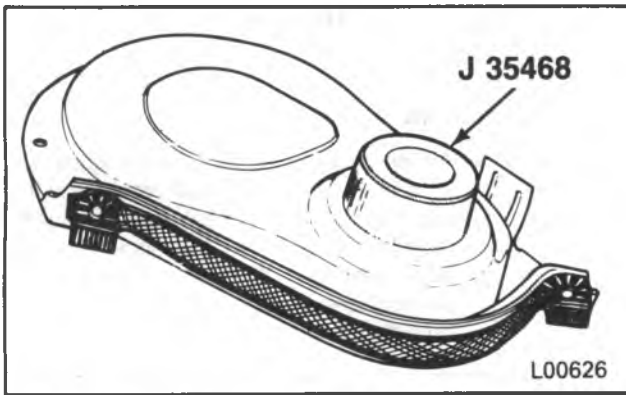

Figure 19 — Installing The Front Crankshaft Seal
- Use J 35468 to press the seal into place (figure 19).
2. New front oil pan seal to the timing gear cover. Refer to figures 19 and 20 for information on seal alterations and positioning. Press the retaining tips into the holes in the cover.